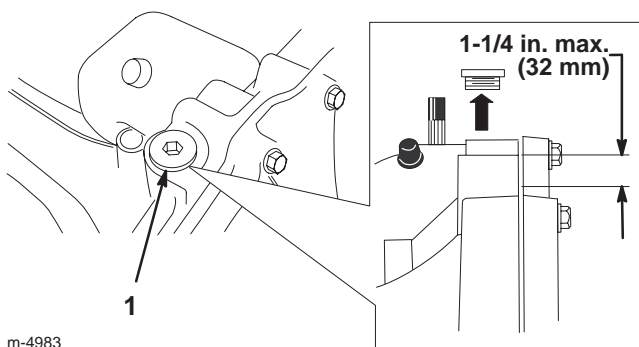

Figure 27
6. Clean around the fill plug (Fig. 27) so that dirt cannot fall into the reservoir if fluid needs to be added.
Note: The level should be a maximum of 1-1/4 in. (32 mm) below the top of the fill port (Fig. 27). Add oil if necessary.